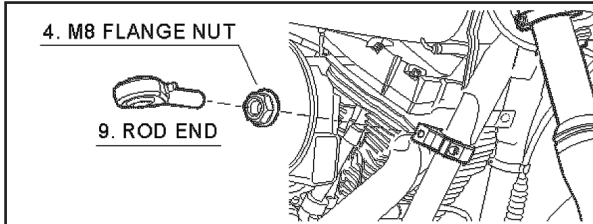

FIG. 6
5. **SEE FIGURE 6.** Thread the rod end (#9) into the frame bracket all the way, and then back it back out ½ to 1 turns, making sure the lubricator nipple faces toward the front of the motorcycle. Spin the M8 flange nut (#4) down just finger tight for now.